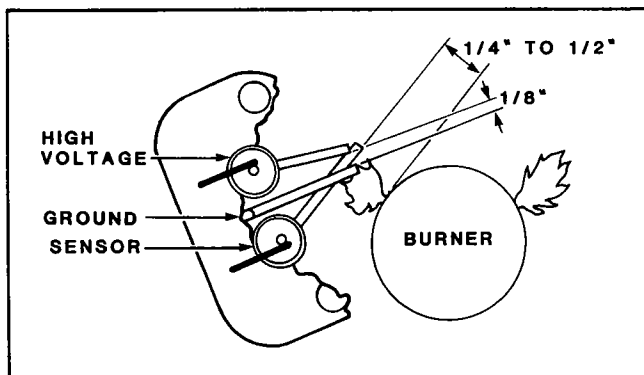

Figure 54. Electrode Settings
- If there is spark during this check, it indicates a short to ground in the high voltage wire or electrode. Check the high voltage wire for breaks. Check the electrode insulators for cracks. Check electrode settings (figure 54).
6. If lockout occurs after 7 seconds from beginning of ignition cycle, it indicates that the sensor is passing a border line current signal to the control module. A microamp check will show a fluctuating reading with periods of operation below 5 microamps. In almost all cases this is due to improper location of the sensor electrode. Resetting the sensor according to figure 54 will give the best readings on most units. In some cases a higher reading can be obtained by adjusting the sensor slightly different than shown. As long as the microamp reading consistently stays above the minimum reading for the entire cycle, no further adjustment should be necessary.